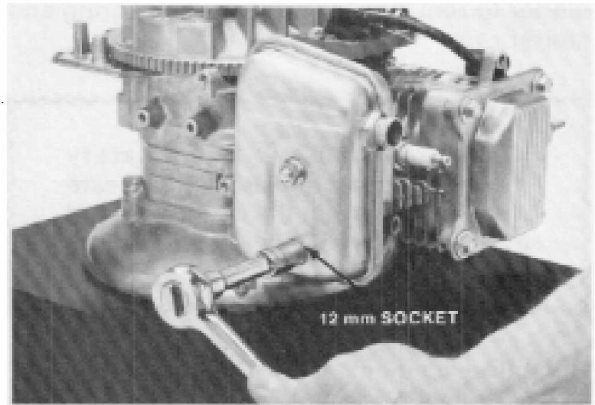

Figure 4-2
1. Remove the two nuts retaining the muffler. These nuts may be loosened with a 12 mm wrench or socket. See Fig. 4-2.